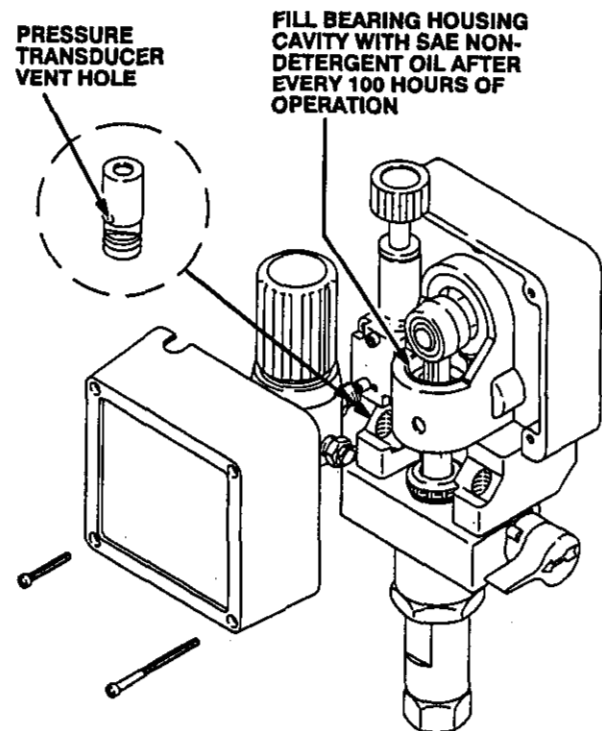

Fig 11
4. **Periodically clean paint residue from the pressure transducer vent hole area.** See Fig 11. Replace the transducer when leakage is excessive. See page 27.
5. **Lubricate the bearing housing** after every 100 hours of operation. Remove the front cover. Fill the bearing housing cavity with SAE 10 non-detergent oil. See Fig 11.